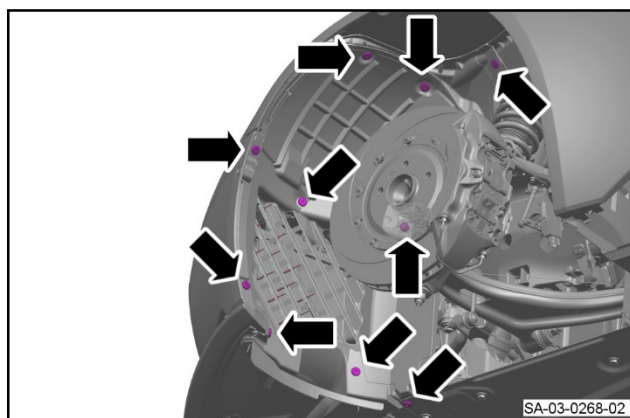

Figure 2
3. Remove the 10 screws that attach the front section of the front left side wheel arch liner to the body (refer to Figure 2).